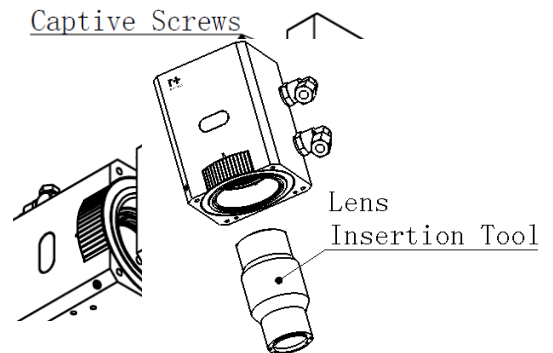

Figure 14 Remove The Focusing Lens
- See Figure 14, using the lens insertion tool, unthread the lens holder.